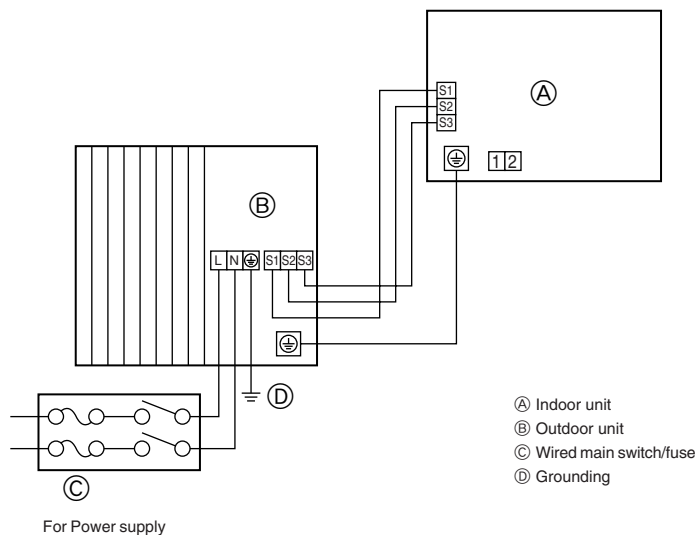
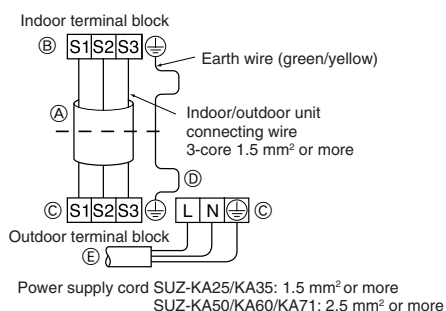
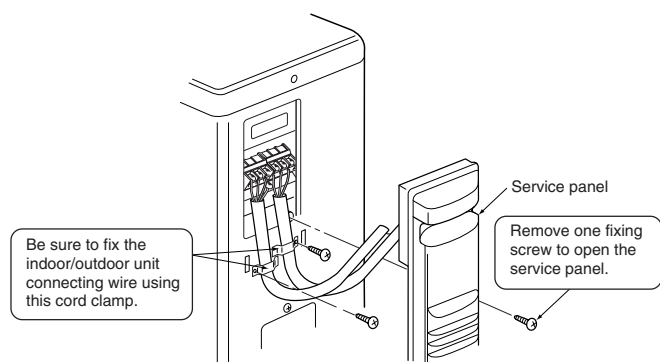
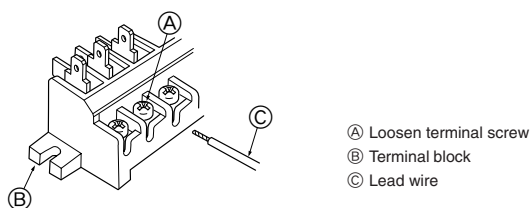

Fig. 6-1
Fig. 6-2
Fig. 6-3
Fig. 6-4
6.1. Outdoor unit (Fig. 6-1, Fig. 6-2, Fig. 6-3, Fig. 6-4)
- ① Remove the service panel.
- ② Wire the cables referring to the Fig. 6-1, Fig. 6-2, Fig. 6-3 and the Fig. 6-4.
- Perform wiring as shown in the diagram to the lower left. (Procure the cable locally) (Fig. 6-2)
- Use care not to make miswiring. (Fig. 6-4)